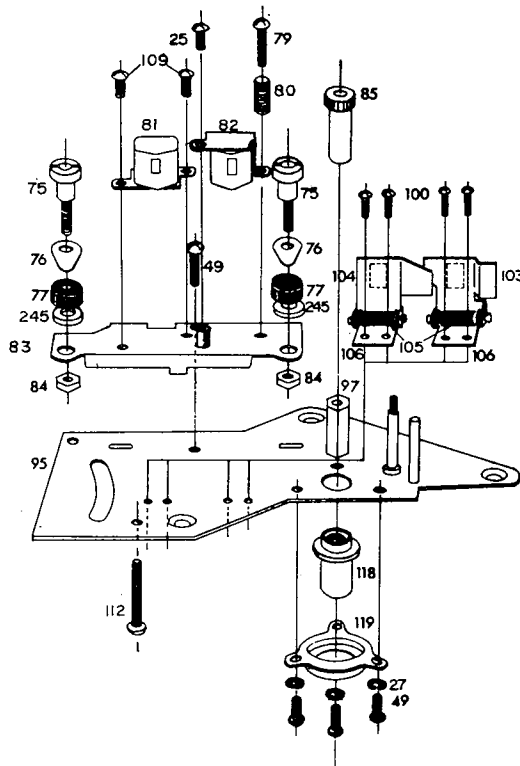

Figure 17 Head assembly of RD-708
## RECORD/PLAYBACK HEAD (82) ADJUSTMENT (Refer to Figure 17)
2. Adjust the SCREW (25) in Fig 17 of the RECORD/PLAYBACK HEAD (82) to obtain maximum output.
## HEADS (81) (82) HEIGHT ADJUSTMENT (Refer to Figure 8 and Figure 17)
1. Remove the HEAD ASSEMBLY removing the SCREW (49).
2. Loosen the CLUMP NUTS (84) on the back of the HEAD MOUNT (83) so that the TAPE GUIDES (75) can be adjusted.
3. Reassemble the HEAD ASSEMBLY fixing the SCREW (49).
5. Operate the recorder in the FORWARD PLAY mode and adjust the TAPE GUIDE (right) (75) for maximum output from the tape.
7. If the tape is not completely erased, adjust the TAPE GUIDE (75) (left).
8. After complete alignment is attained, tighten the CLUMP NUTS (84) removing the HEAD ASSEMBLY and then fix it on the original position.
## TAPE PADS POSITIONING ADJUSTMENT (Refer to Figure 17)